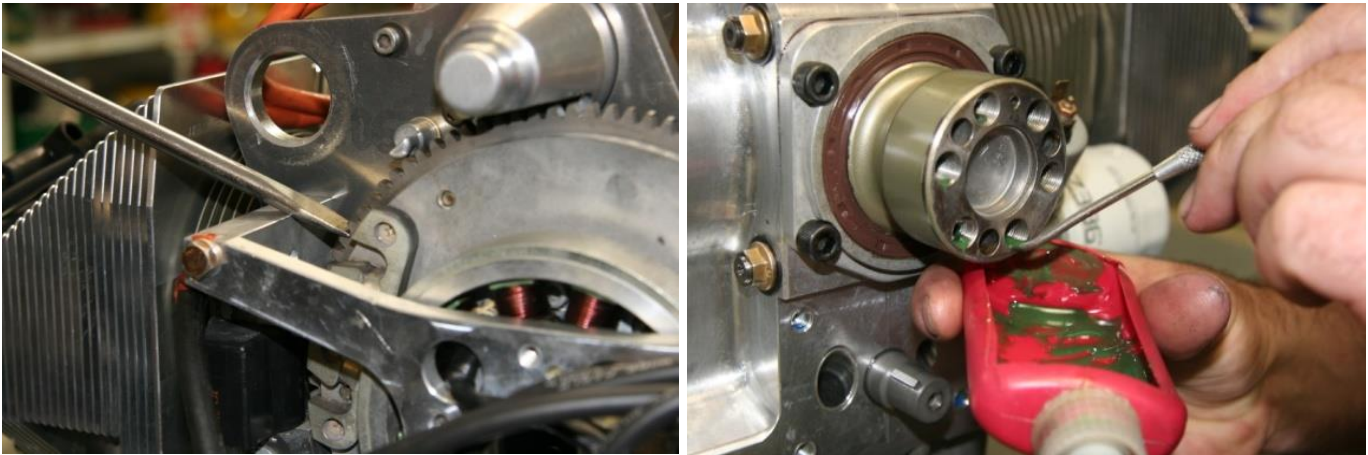

Figure 205 – Preparing To Fit Propeller Flange
- Fill the seal with high temperature grease or commercial seal lube and fit the housing to the engine as shown in Figure 205 (right). Note the orientation of the housing. Use 4 off 5/16” cap screws with Loctite 243 on the threads. Note that earlier engines used 1/4” screws. Either type assembly is acceptable.
Apply the same amount (approximately the size of a large match head) of Loctite 620 to the threads in the crankshaft. Apply the compound as shown in Figure 205: Use a scribe or small probe to apply the Loctite to the threads inside the crankshaft. Apply in the range 1 – 6mm from the front face of the crank.